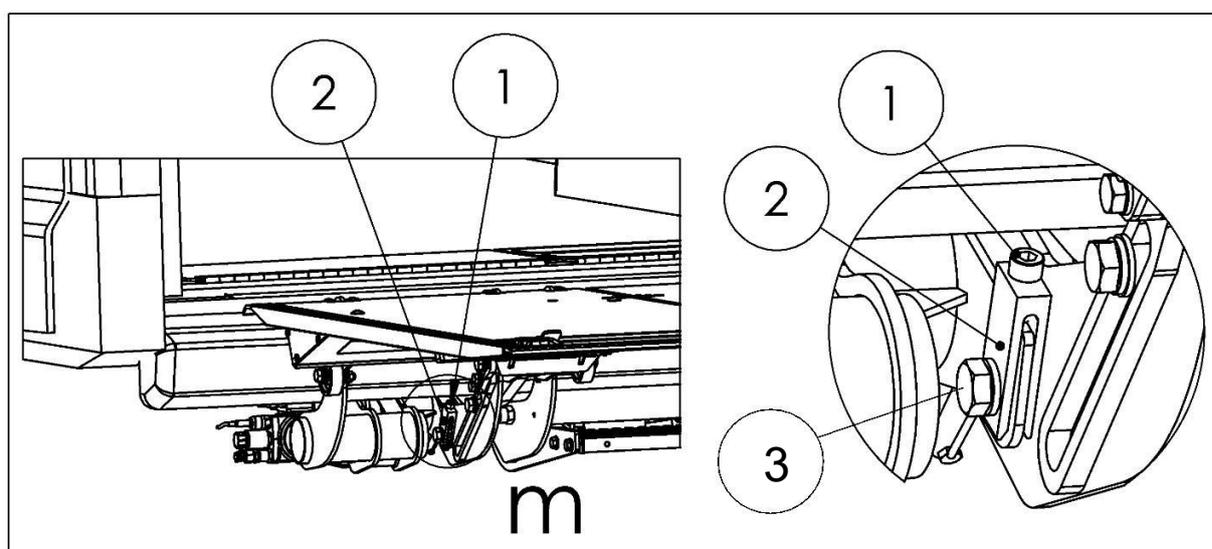

Figure 72
- To align the platform parallel to the vehicle floor, adjust the lifting gear using the left-hand adjustment fork (adjustment screw accessible from above) (see Fig. 72).